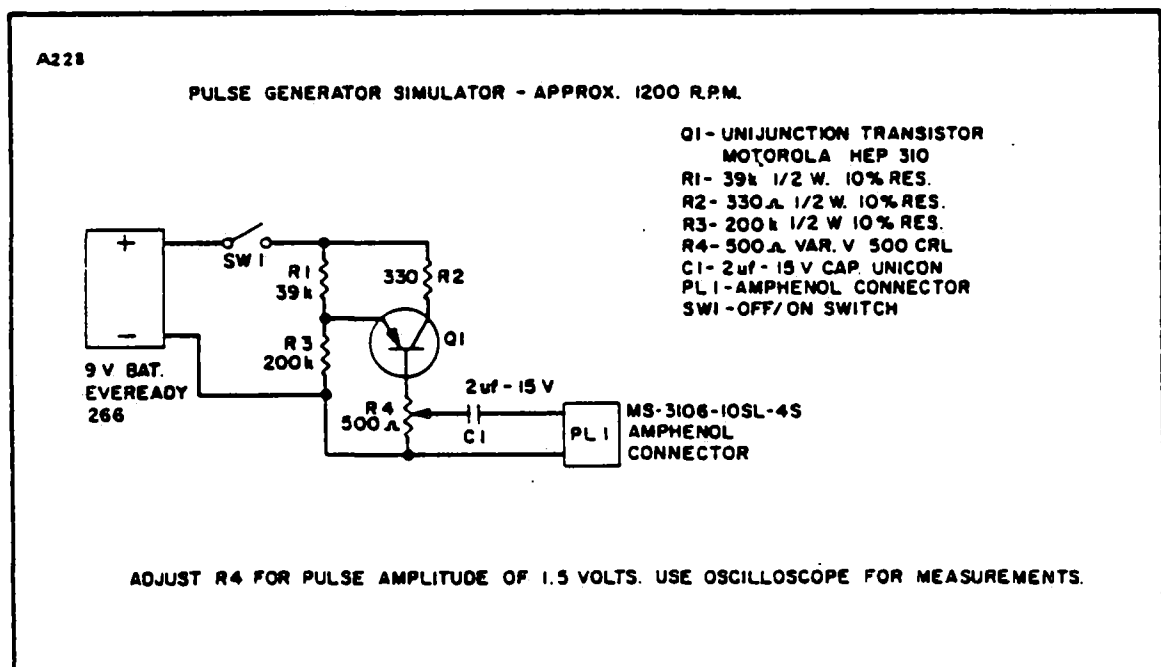

Figure 14-13. Pulse Generator Simulator
- c. Reconnect plug PL3 and visually observe if both glow lamps light with the master engine turning at near cruising RPM. A pulse generator simulator may be used according to paragraph 14-24 and Figure 14-13.